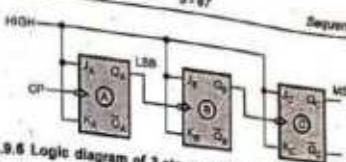

Fig. 5.9.6 Logic diagram of 3-stage negative edge triggered counter
**Solution :** When flip-flops are negatively edge triggered, the Q output of previous stage is connected to the clock input of the next stage. Fig. 5.9.6 shows 3-stage asynchronous counter with negative edge triggered flip-flops.